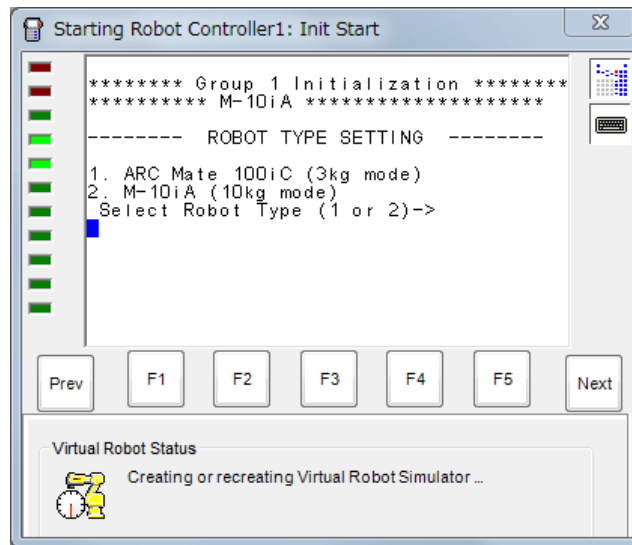

Fig. 3.1.1(h) Virtual Robot Simulator setting
- 10 When the Virtual Robot Simulator has been generated, a new workcell is started (Fig. 3.1.1(i)) and a robot is added to the workcell.